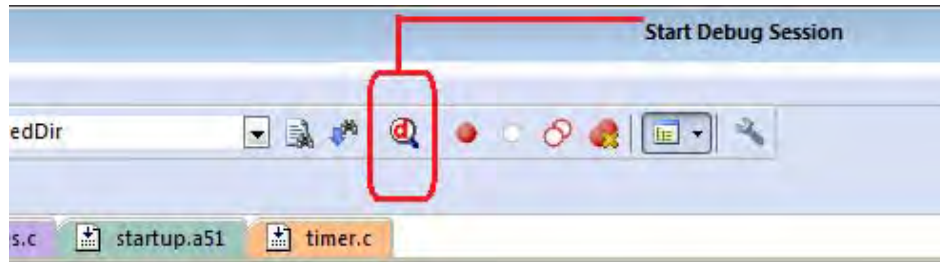
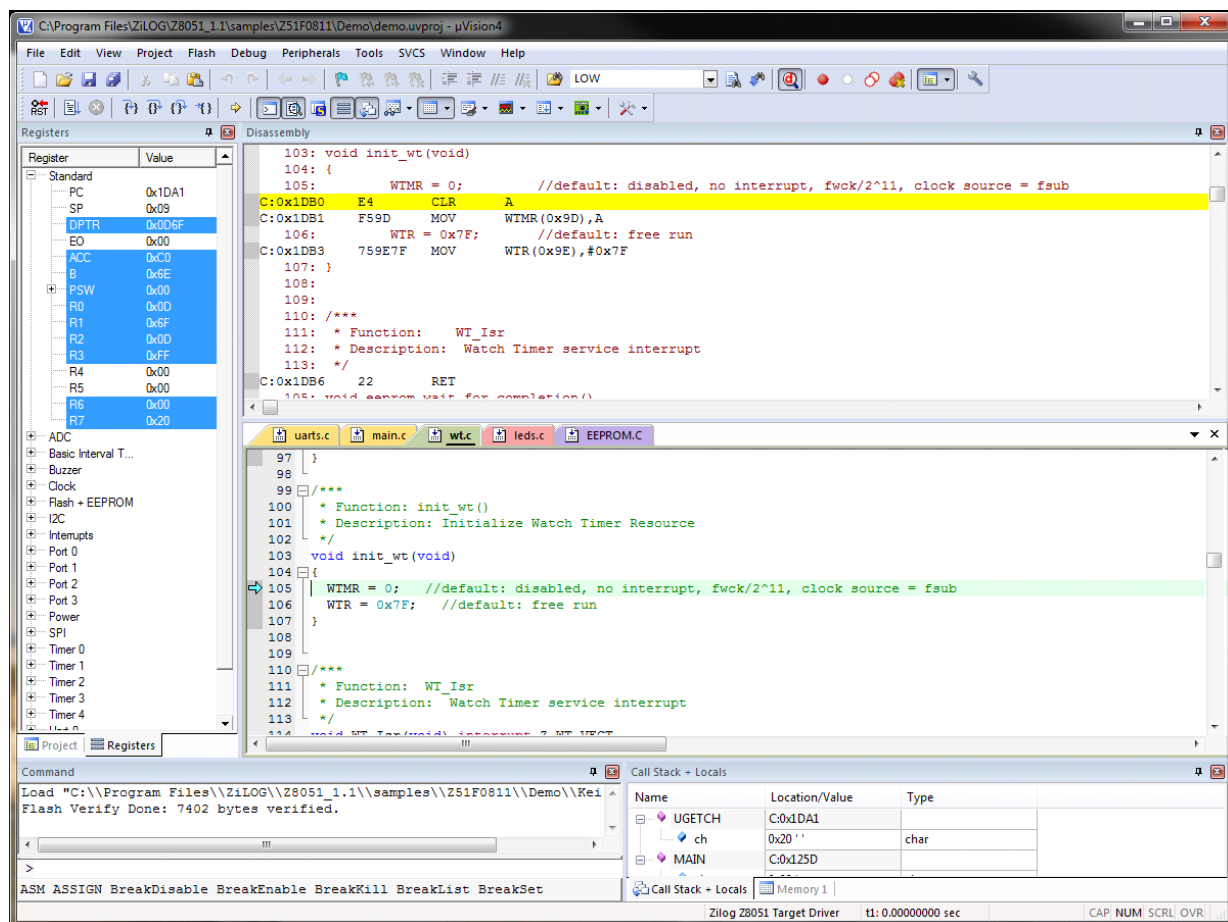

Figure 27. Beginning a Debug Session
Figure 28. A Default Debug Session
13. Start your debugging session by clicking the **Start/Stop Debug Session** icon, as indicated in Figure 27. A default Windows configuration of the debug session is shown in Figure 28.